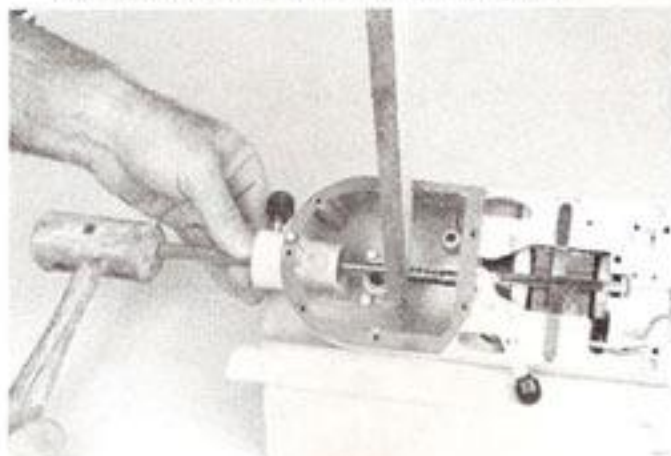

Fig. 31
- G. The armature can now be removed. With attachment hub bevel gear removed, insert drift punch through attachment hub opening and gently tap armature straight back through the stator using a block of wood to protect the shaft (Fig. 31).